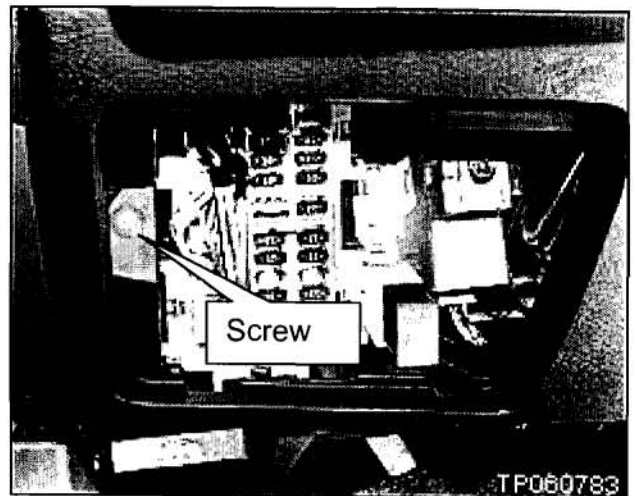

Figure 6
8. Remove two screws from the lower trim panel (see Figures 6 and 7).